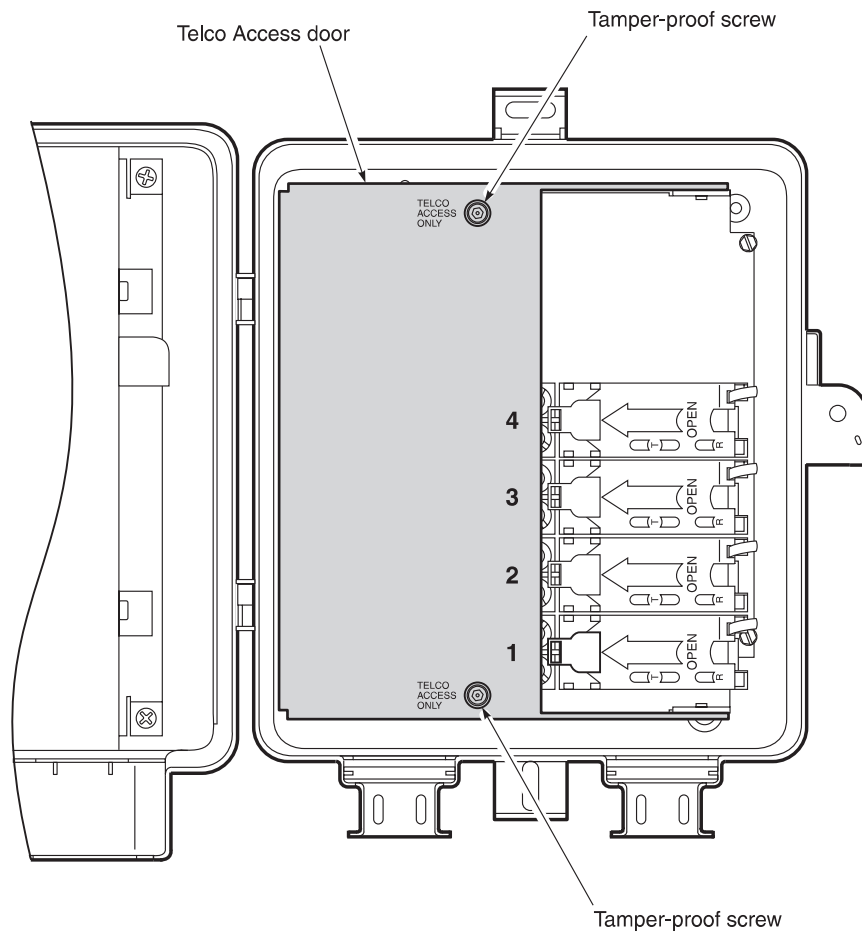

Figure 6. *Opening the Telco Access Door*
- 1 Use a 5/32" tamper-proof hex key to loosen the two tamper-proof screws on the Telco Access door, then open the Telco Access door (Figure 6).